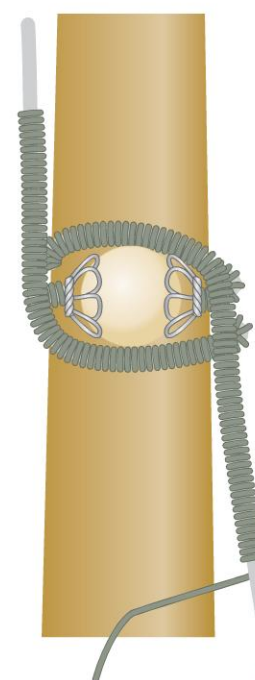

figure 4
- 7 Slide the ring down to the final ring size. Pull the 18-gauge wire around and down the side of the bead. Remove the ring from the mandrel, turn it over, place it back onto the mandrel, and pull the second wire around and down the side of the bead (Figure 4).